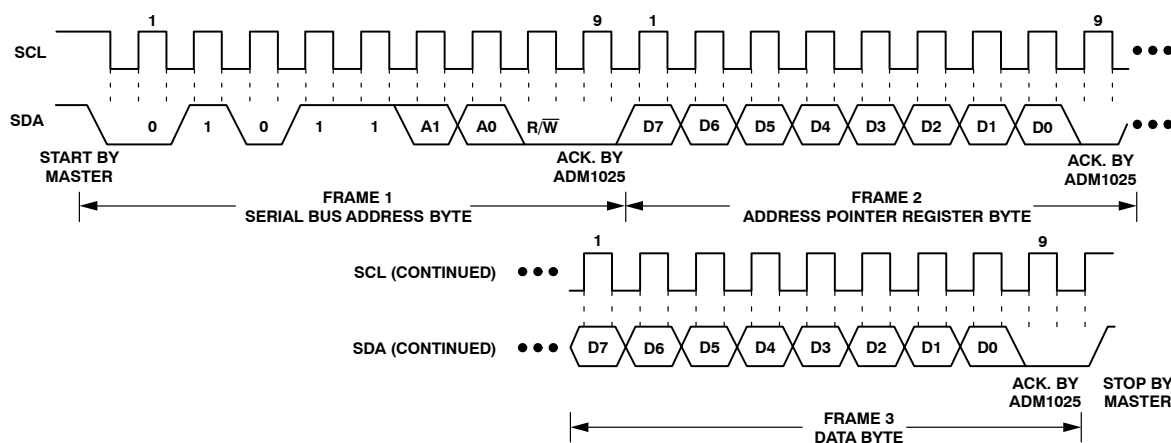
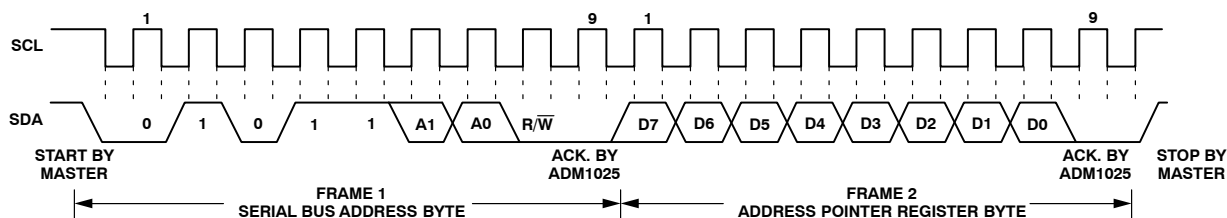
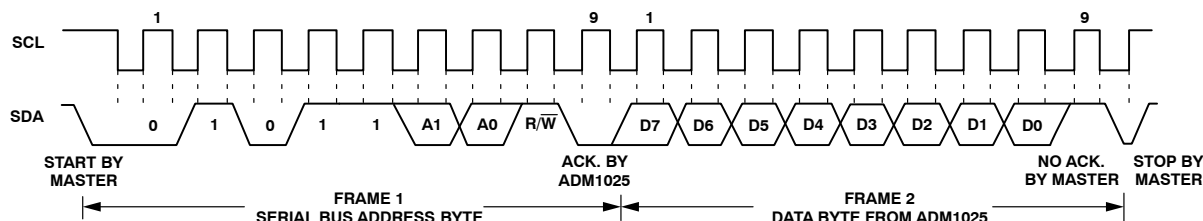

Figure 10. Writing a Register Address to the Address Pointer Register, then Writing Data to the Selected Register
Figure 11. Writing to the Address Pointer Register Only
Figure 12. Reading Data from a Previously Selected Register
This is illustrated in Figure 10. The device address is sent over the bus followed by $\text{R}/\overline{\text{W}}$ set to 0. This is followed by two data bytes. The first data byte is the address of the internal data register to be written to, which is stored in the Address Pointer Register. The second data byte is the data to be written to the internal data register.
1. If the ADM1025/ADM1025A's Address Pointer Register value is unknown or not the desired value, it is first necessary to set it to the correct value before data can be read from the desired data register. This is done by performing a write to the ADM1025/ADM1025A as before, but only the data byte containing the register address is sent, since data should not be written to the register. This is shown in Figure 11. A read operation is then performed consisting of the serial bus address, R/W bit set to 1, followed by the data byte read from the data register. This is shown in Figure 12.
2. If the Address Pointer Register is known to be already at the desired address, data can be read from the corresponding data register without first writing to the Address Pointer Register, so Figure 11 can be omitted.
2. In Figure 10 to Figure 12, the serial bus address is shown as the default value 01011(A1)(A0), where A1 and A0 are set by the three-state ADD pin.